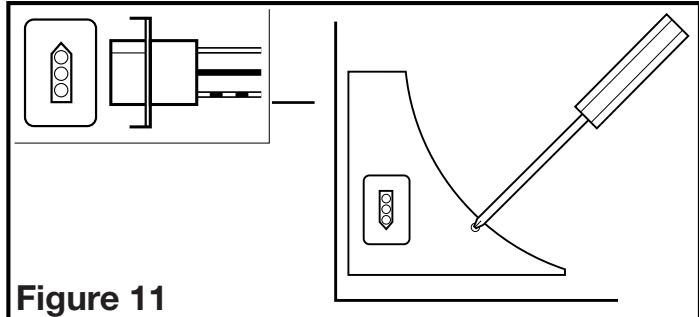

Figure 11
- Reinstall the fan's wire compartment cover. Rotate the blower wheel by hand to ensure it spins freely. Plug the fan's quick connect motor cord into the receptacle. This cord will only fit one way into the receptacle (Figure 11).